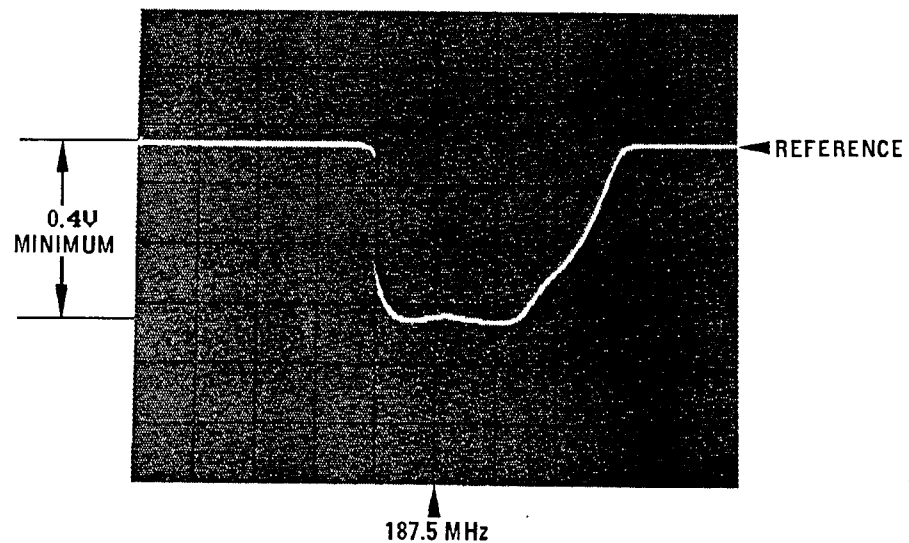

Figure 5-11. Sampler Frequency Response
8. Adjust A3A9A5C1 and C2 (with an insulated adjustment tool) to get an oscilloscope display similar to figure 5-11. Tune for maximum negative voltage and flatness over the center two divisions. The minimum change from the reference level to the maximum negative voltage should be 0.4 volts. (*Troubleshooting Note:* If the minimum change is out of tolerance, A3A9A5Q3 and Q8 may have low gain, the YTO feedback signal feeding the RF port of the mixer may be low, or the sampler may be bad.)